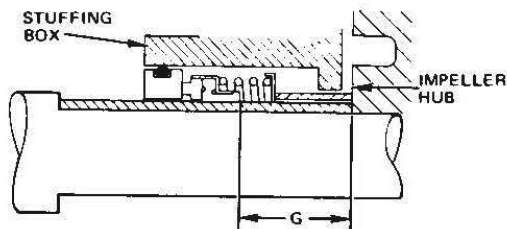

Figure 7A
1. Install the rotating and stationary elements of the mechanical seal (6-400-0) on the shaft sleeve (1-009-0) being certain that the two wearing surfaces face each other. Position the seal on the sleeve according to the "G" dimension found in **Figure 7A**.